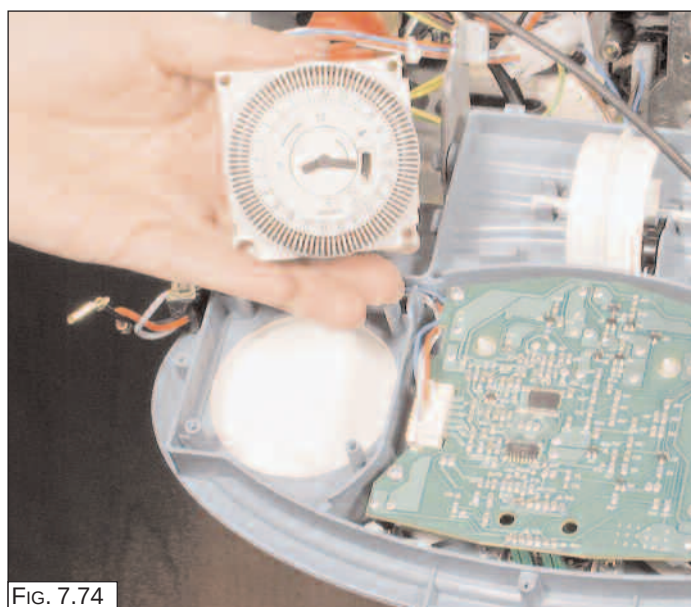

FIG. 7.74
3. Remove the time clock (FIG. 7.74).